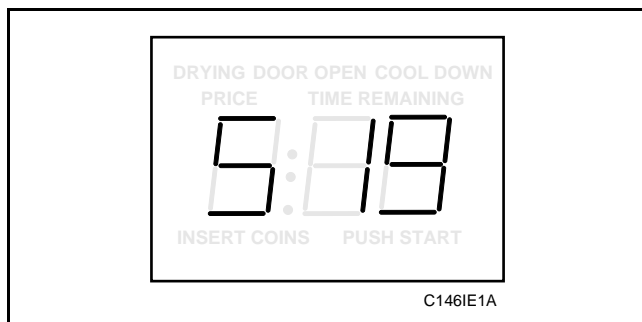

Figure 22
2. While pressing and holding the HIGH TEMP pad with one hand, press the MED TEMP pad with the other hand. Programmable option number 1, (Audio Signal “SIG”), will appear in the VFD, *Figure 22*.